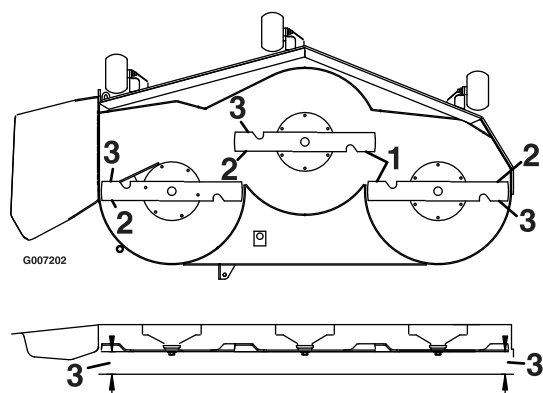

Figure 69
4. Measure between the outside cutting edges and the flat surface (Figure 69). If both measurements